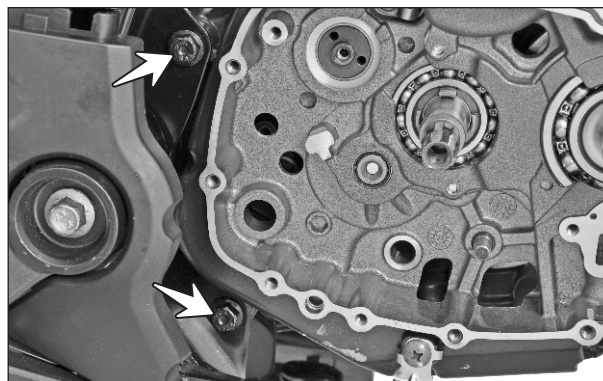

Fig. 3.137
- Remove the hexagonal flange bolt (M18x100 - 1 no.) and (M8x120 - 1 no.) from the rear mounting of the engine assembly. (Fig. 3.137)